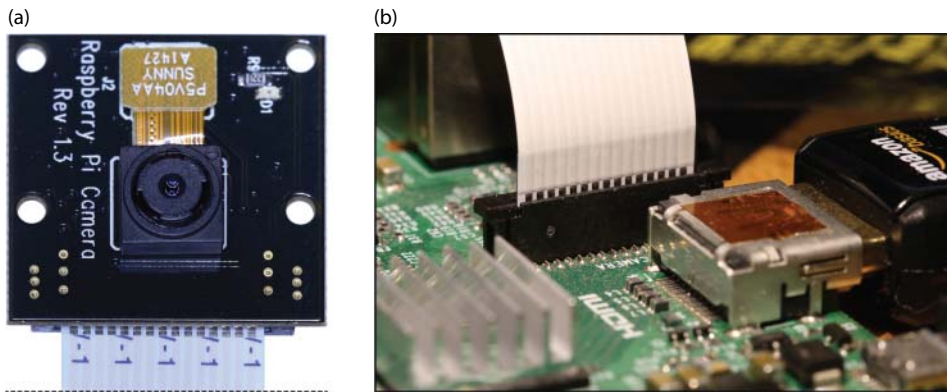

Figure 15-1: (a) The RPi NoIR camera; (b) correct attachment of the ribbon cable to the RPi CSI connector
The RPi camera (\$30), illustrated in Figure 15-1(a), is a small (25mm × 24mm) camera module that is attached to the RPi *camera serial interface (CSI)* connector via a 15cm ribbon cable (15core, 1mm pitch). The CSI connector is on all RPi models, except the RPi Zero. The fixed-focus camera uses an Omnivision 5647 sensor that has still picture resolution of 2592 × 1944 pixels (5MP) and supports full HD video recording (1920 × 1080) at various frame rates (including 640 × 480 at 90FPS!). The camera is also available with and without an infrared filter; the latter is called the NoIR model, and it is useful for night-vision applications (with the use of active IR illumination), but daylight image colors are badly affected. The RPi NoIR is currently produced on a black PCB, whereas the regular model is produced on a green PCB.
The camera is attached to the RPi as illustrated in Figure 15-1(b) using the following steps:
- Push the plastic housing clip down. The cable should appear as in Figure 15-1(b).